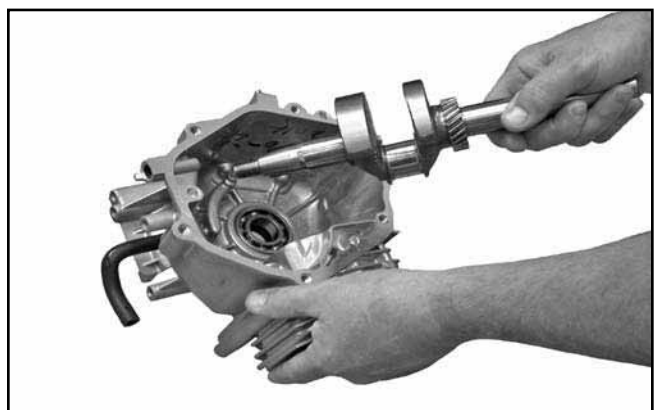

Figure 8-54. Removing Crankshaft.
1. Remove the crankshaft. See Figure 8-54.